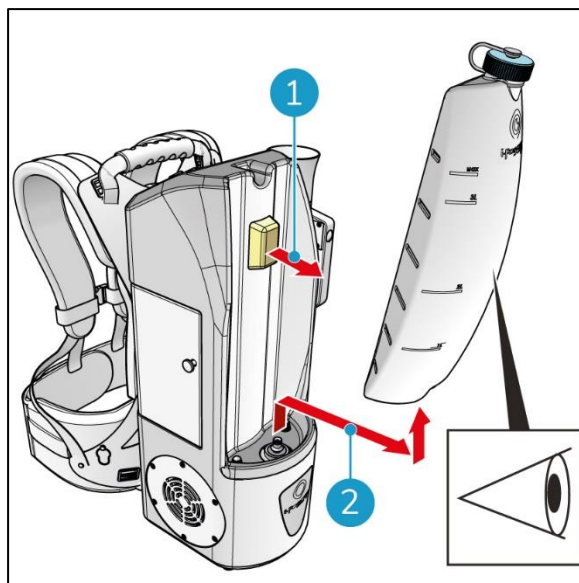

Figure 11
4. Pull the top of the disinfectant solution tank towards you (Figure 11, pos 1).
5. Remove the disinfectant solution tank (Figure 11, pos 2) by pulling it up slightly.